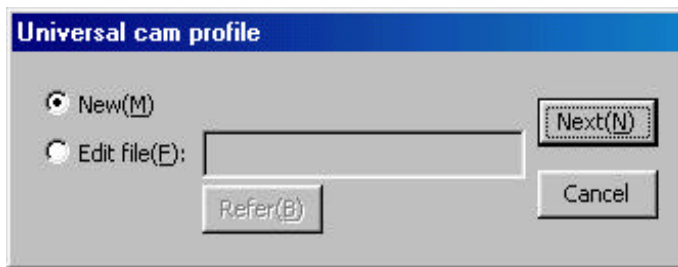

Figure 7.49 “Universal cam profile” dialog box
Click *“Universal cam (P)”* in the *“Cam Profile Menu”* dialog box to display the Universal cam profile dialog box (see Figure 7.49).
- 1) Select “*Edit file*” in the “Universal cam profile” dialog box shown in Figure 7.49.
- 2) Enter the file name of a universal cam profile (extension .unv) in the file name input text field. If you are not sure about the accurate file path and name, click “*Browse (R)*.”
- 3) Select a file and click “*Open (O)*.”
- 4) Click “*Next (N)*” to return to the “Universal cam profile” dialog box.